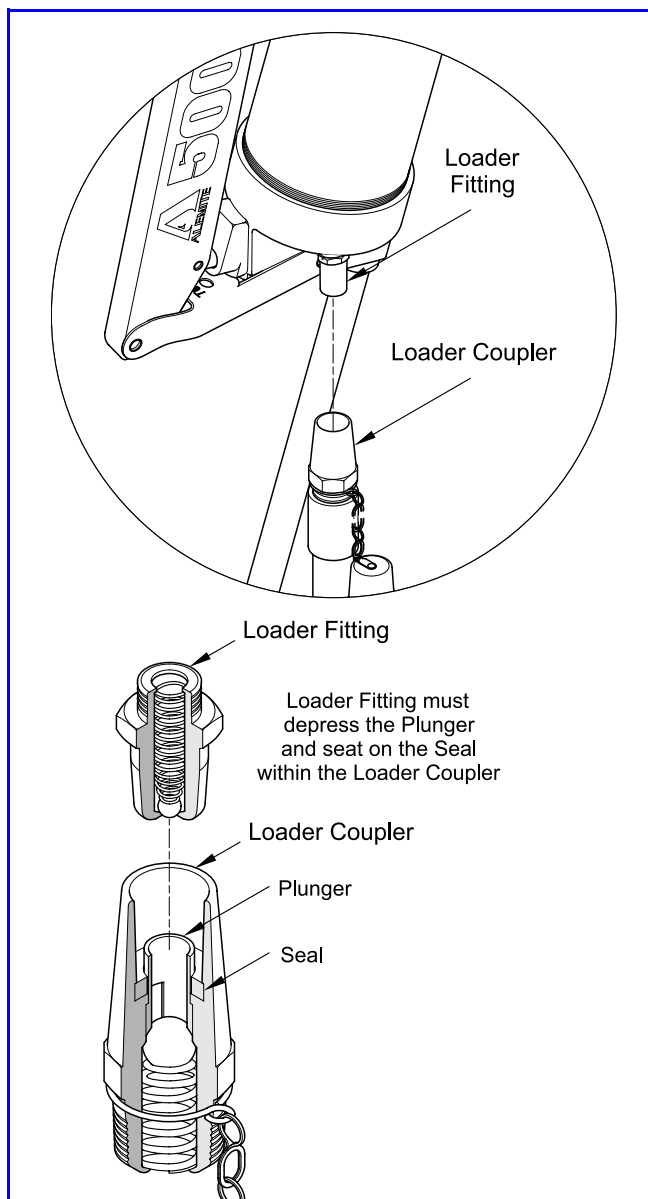

Figure 5 Loader Fitting and Loader Coupler Section View
5. Seat the Loader Fitting into the loader coupler. See **Figure 5**.